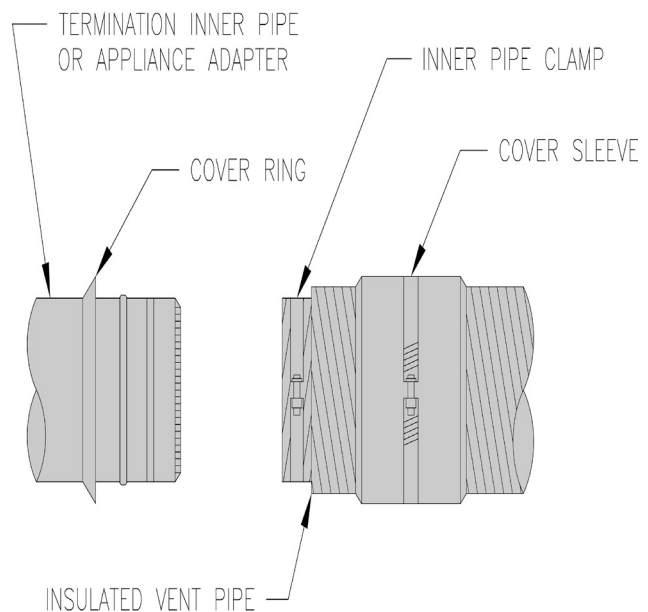

Figure 5-9: Vent Pipe Assembly to Vent Termination Inner Pipe and Appliance Adapter
3. Pull outer vent pipe back 1 in. to 2 in. from end of inner vent pipe and remove insulation; firstly, at vent pipe end to be connected to the vent termination; secondly, at vent pipe end to be connected to the appliance adapter. See Figure 5-9.
4. Install supplied Cover Sleeve Assembly onto each end of outer vent pipe, and, move the assembly a few inches back from the end; firstly, at vent pipe side to be connected to the vent termination; secondly, at vent pipe side to be connected to the appliance (boiler outlet collar) adapter. See Figure 5-9.
5. Slide supplied Cover Rings; firstly, over stop bead on vent termination inner pipe; secondly, over stop bead on appliance adapter. See Figure 5-9.